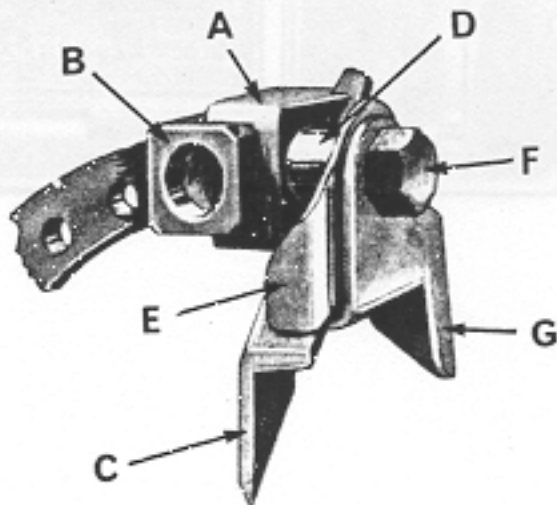

fig. 15
10. Fitting upper knife (fig. 15).